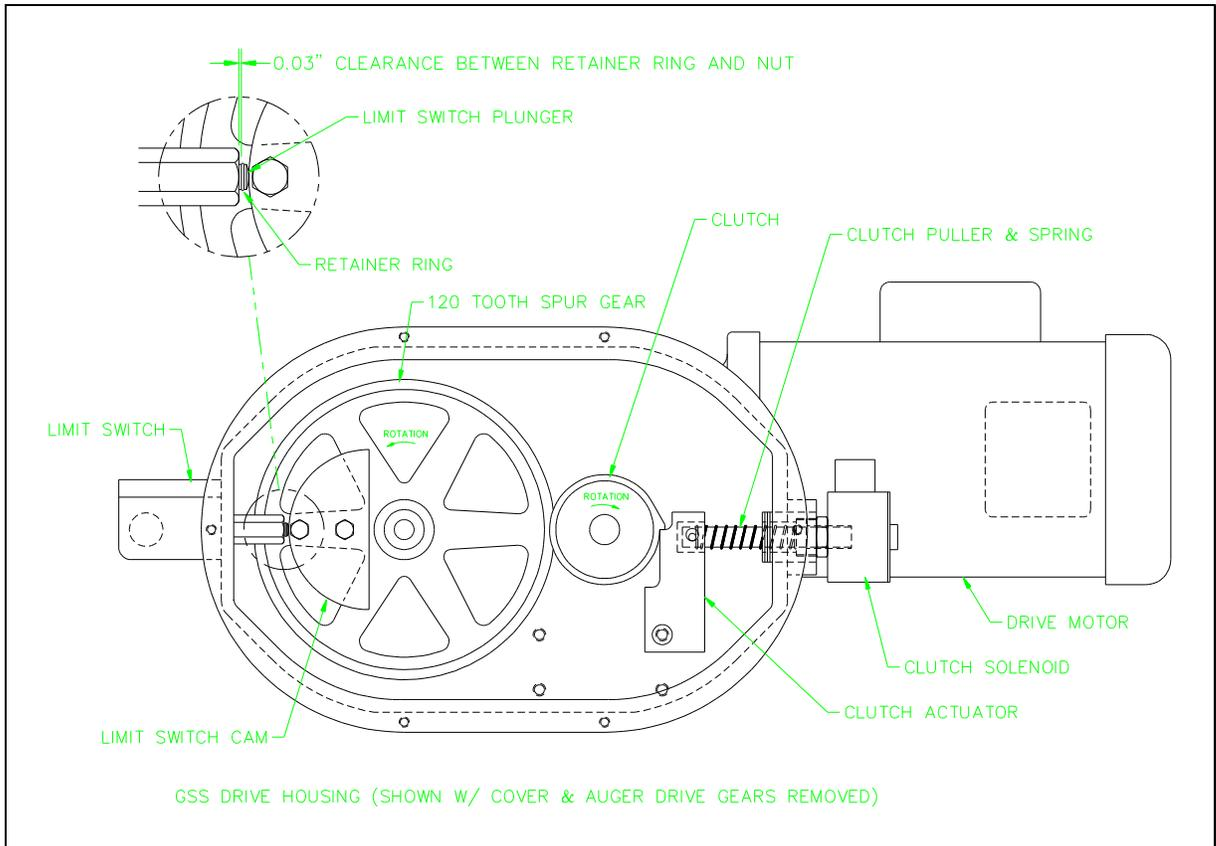

FIGURE 5-1, LIMIT SWITCH CAM ADJUSTMENT
The limit switch cam actuates the limit switch by pushing the switch plunger inward. The correct cam position is shown in Figure 5-1. Follow the instructions below.
- D. Slide the limit switch cam to the position shown in Figure 5-1. Hold the 0.03" dimension and re-tighten the two 1/4-20UNC hex head screws.
- F. Make sure key is in place on reducer shaft and re-install the clutch so that the clutch and limit switch cam are positioned as shown in figure 5-1.
- G. Turn the motor fan shaft by hand in the direction labeled on the motor and in figure 1-1. The clutch will rotate until the stop cog engages on the clutch actuator and stops further rotation of the auger tube. The limit switch cam should be the position as shown in figure 5-1.